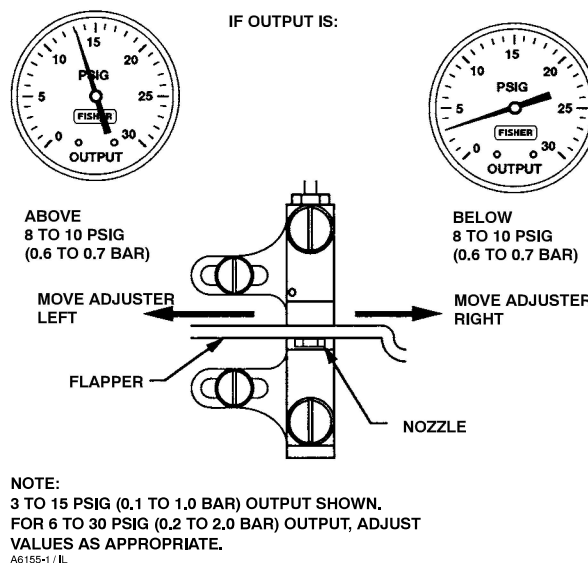

Figure 10. Reverse-Acting Controller Span Adjustment—
moving the calibration adjuster (key 41) a small distance as indicated in figure 10.
13. For controllers with anti-reset windup (Type 4160KF and 4162KF), remove the two machine screws, anti-reset windup cover, and two O-rings installed in step 1 of this procedure. Install the anti-reset windup assembly (key 186) with the arrow pointing in the direction recorded in step 1.